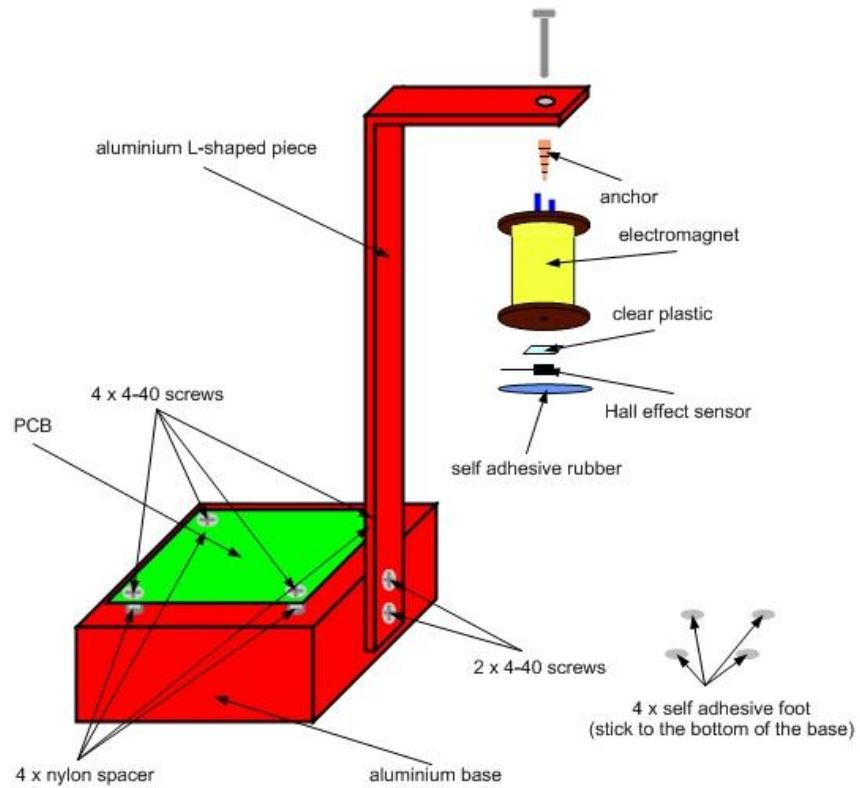

Figure 3. Mechanical assembly.
- Stick the rubber feet under the base aluminum block to prevent it from scratching, and mount the PCB on top of the base using 4 x 4-40 machine screws and 4 nylon spacers as shown in Figure 3.
- Fasten the L-shaped aluminum piece to the base block using 2 x 4-40 machine screws as shown in Figure 3.
- Fasten the coil using the screw and anchor as shown in Figure 3.